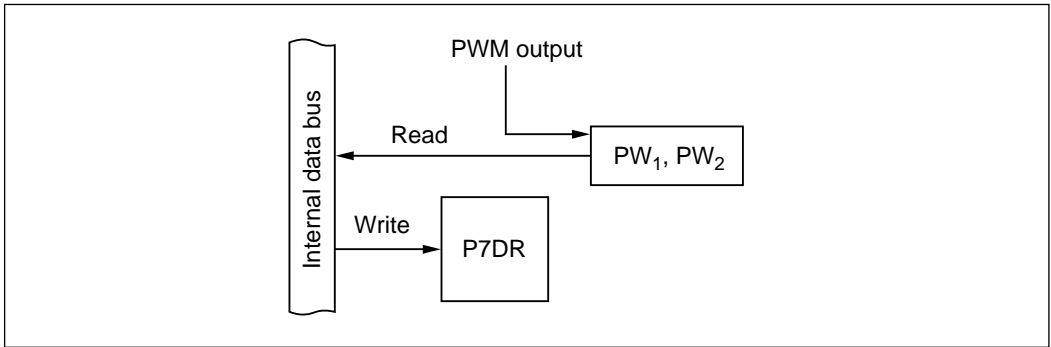

Figure 10-52 PW₂ and PW₁ Output (Modes 1 to 7)
(8) PW₂ and PW₁ Output (P7₇ and P7₆: Modes 1 to 7): Figure 10-52 shows a block diagram illustrating the PWM output function. Table 10-42 indicates register read/write data. When P7₇ and P7₆ function as PW₂ and PW₁, data written in the port 7 data register (P7DR) is not output at the pins, but P7DR can be read to monitor the levels of the PW₂ and PW₁ pins.